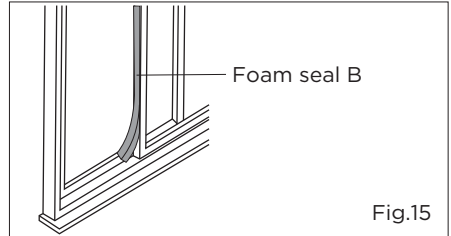

Fig.15
6. Cut the foam seal B to an appropriate length and seal the open gap between the sliding sash and outer window sash, as shown in Fig.15.